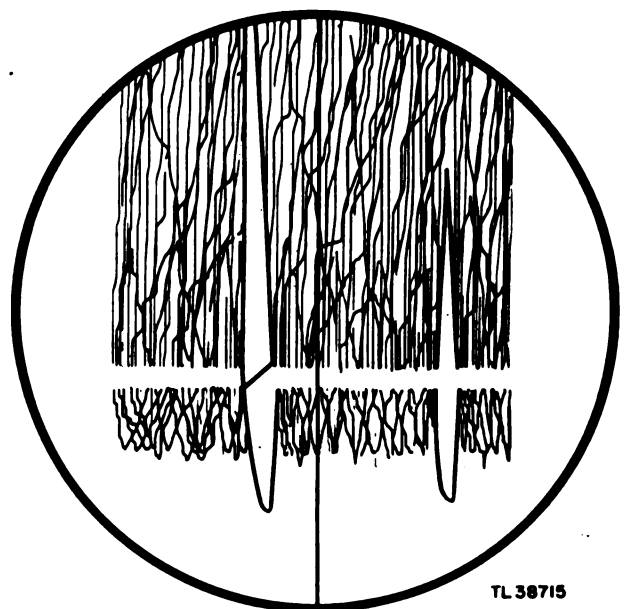
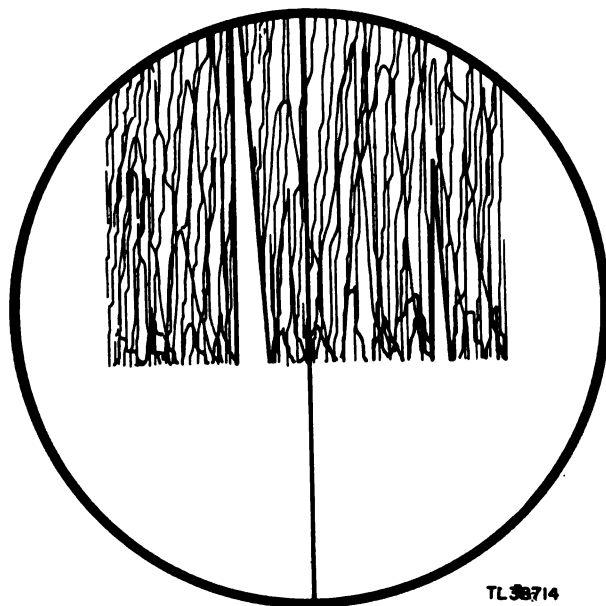

Figure 3. Radar and IFF data presentation.
Figure 4. Radar data presentation.
a. The received pulses from the IFF receiver are displayed on the SCR-268-(\*) range scope at the same time as the received radar echoes. It is possible to see both the original target echoes and the IFF pulses at the same time, providing immediate identification of the detected plane. The transmitted pulse of the SCR-268-(\*) appears rising above the baseline on the range scope (at the left in fig. 3); the main pulse of the IFF will appear exactly below it, extending beneath the baseline. The received
b. Normally, the SCR-268-(\*) is operated without the identification information being displayed, and the range scope appears as it does in ordinary radar operation (fig. 4). When the operator wishes to identify a target, he switches the IFF equipment to OPERATE, and the IFF information immediately appears on the screen, as shown in figure 3.